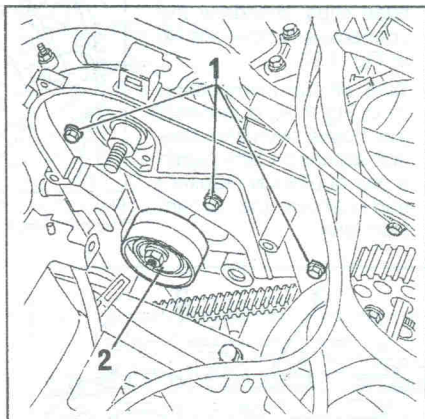

Fig. 1.30. — The three screws (1) and the tensioning roller (2) for the timing belt must be removed before the cylinder head can be taken off.
- Referring to Fig. 1.30 remove the screws (1) and the tensioner roller (2).